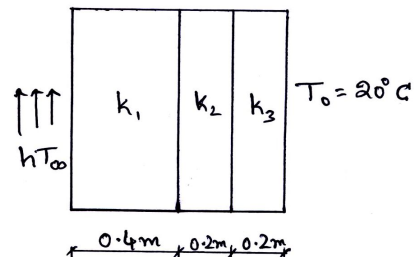

Fig.Q7(b)
b. Determine the temperature distribution in the composite wall using 1D heat elements, use penalty approach of handling BC's. Refer Fig.Q7(b).